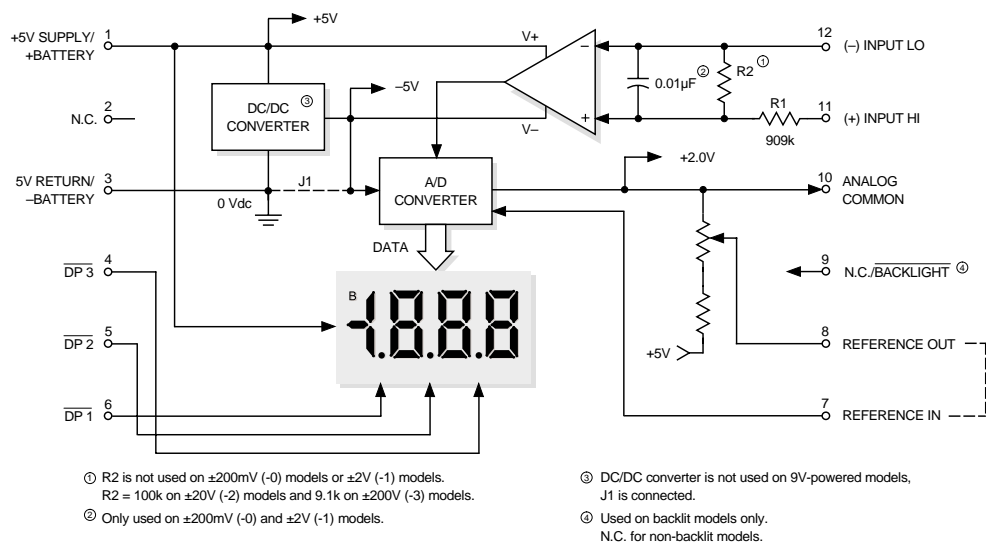

Figure 1. DMS-20LCD Series Simplified Schematic
- ① Applies for transient or continuous overvoltages applied to (+) INPUT HI (pin 11) with (-) INPUT LO (pin 12) properly connected. Pin 12 is not overvoltage protected (see Figure 1). Voltages applied to pin 12 should not exceed the supply voltage.
- ② Listed spec applies to 5V-powered models only. For 9V-powered models, both (-) INPUT LO (pin 12) and (+) INPUT HIGH (pin 11) must always be at least 1.5V above -BATTERY (pin 3) and at least 1.5V below +BATTERY (pin 1).
- ③ See Technical Notes.